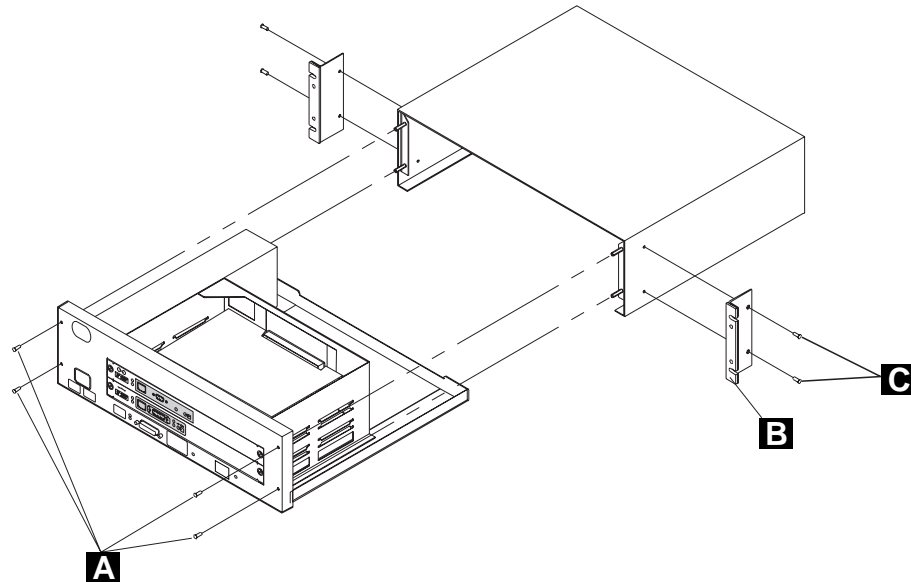

Figure 2-23. Placing the Ethernet Bridge in a Controller Expansion
- b. \_\_\_\_ Attach the rack-mounting brackets using the four short screws. See Figure 2-23.
- 2) \_\_\_\_ Remove the four retaining screws **A** on the front of the ethernet bridge. See Figure 2-23.
- g. \_\_\_\_ If you have removed the chassis (the inner power supply and planar board combination), slide it back into the cover and replace the four retaining screws, which you removed earlier. See Figure 2-23 on page 2-19.